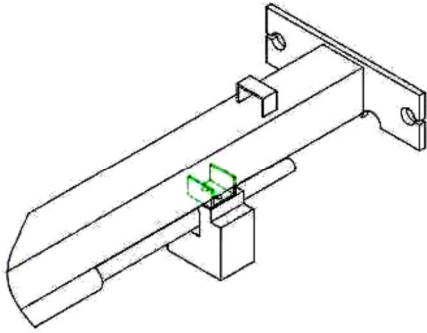

Fig. 6a
7. Overhead Limit Switch & Overhead Beam (Fig. 6a, 6b & 6c)
- A. Install overhead limit switch assembly to overhead beam, using 2ea 1/4"-20 Bolt & Lock Nuts as shown in figs 6a, 6b & 6c.